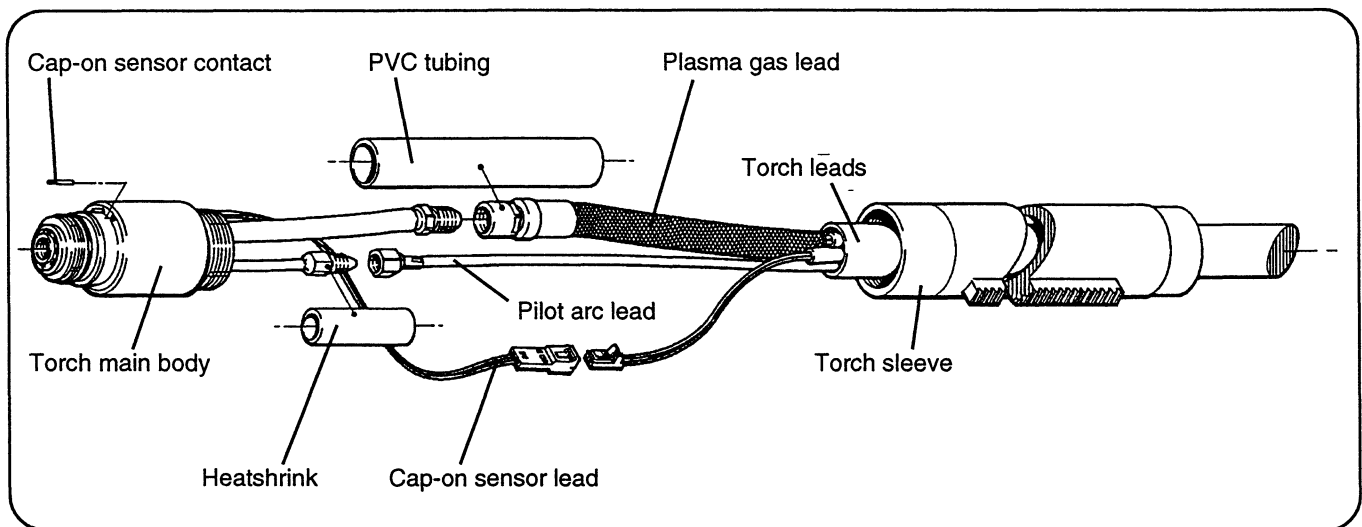

Figure 3-15 PAC135M Torch Assembly
9. Reassemble the torch by reversing the above directions and referring to Fig. 3-15.